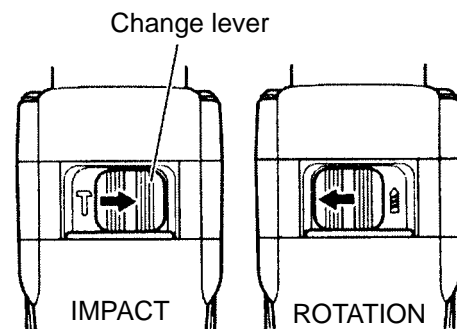

Fig. 3
(2) IMPACT to ROTATION changeover (Fig. 3)